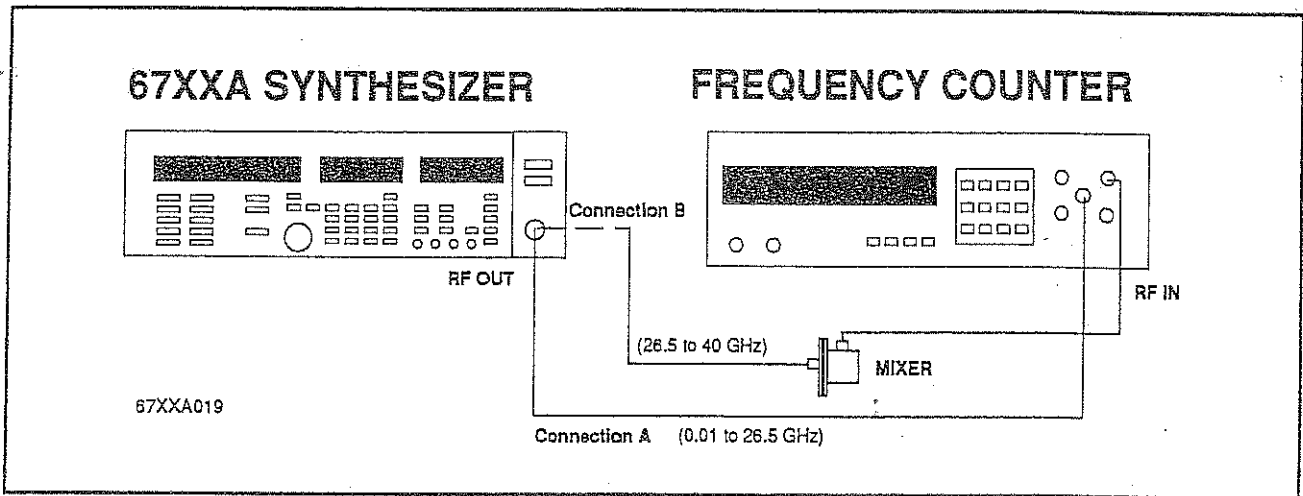

Figure 3-9. Test Equipment Setup for YIG Oscillator Frequency Calibration
1. Connect the equipment as shown in Figure 3-9.